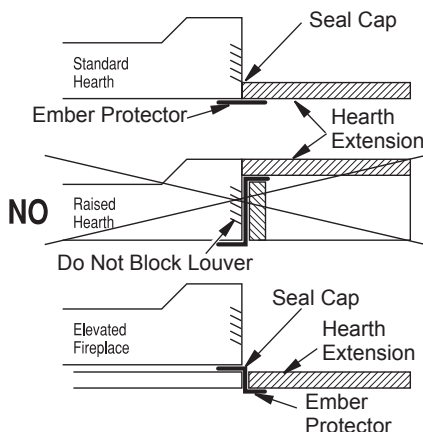

Figure 5 - Hearth Extensions
- Before securing fireplace to prepared framing, ember protector (provided) must be placed between hearth extension (not supplied) and under bottom front edge of fireplace to protect against glowing embers falling through. If fireplace is to be installed on a raised platform, a Z-type ember protector (not supplied) must be fabricated to fit your required platform height. Ember protector should extend under fireplace a minimum of 1". Ember protector should be made of galvanized sheet metal (28 gauge minimum) to prevent corrosion (see Figure 5).
Provide a means to prevent hearth extension from shifting and seal gap between fireplace frame and hearth extension with non-combustible material (see Figure 5).